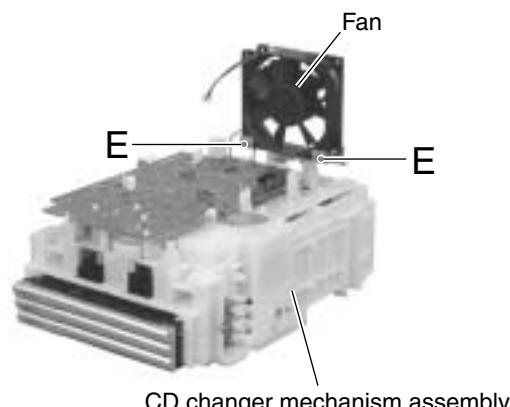

Fig.7
■ Removing the fan (See Fig.7)